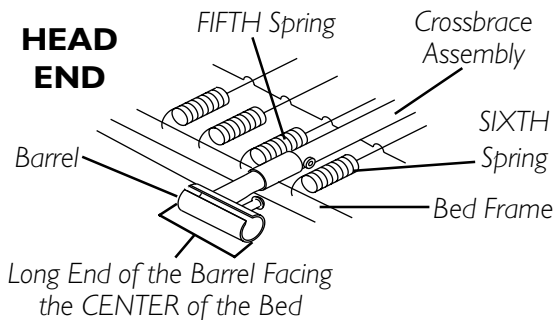

FIGURE 1 - INSTALLING THE CROSSBRACES - BARRELS
INSTALLING THE CROSSBRACES (FIGURES 1 AND 2)
2. Place the bed in the flat position and position one (1) crossbrace between the FIFTH and SIXTH springs at the HEAD-END of the bed frame as shown in FIGURE 1.
3. When holding either end of the crossbrace assembly, turn the barrels so plunger knobs are on top as shown in FIGURE 1.
NOTE: Ensure the long end of the barrel faces the center of the bed with the decal to the center of bed as shown in FIGURE 1. If long end faces the opposite way, rotate crossbrace 180°.